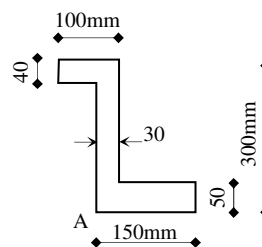

Fig. 2
2. Figure 2 shows the cross section of a structural member.